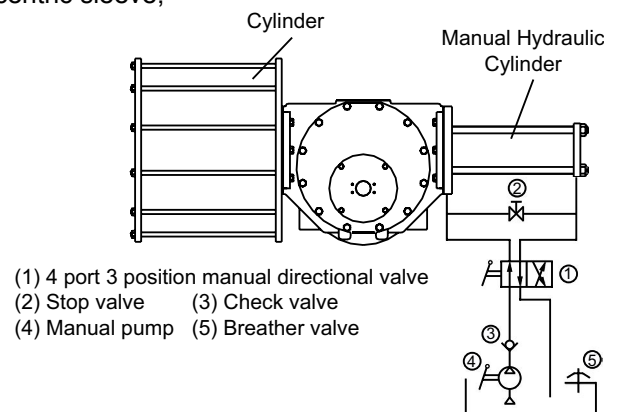

Figure 11
For models G30XXX, G35XXX, G40XXX, G48XXX and G60XXX double acting pneumatic or hydraulic actuators (refer Figures 11 & 11A), a hydraulic cylinder over-ride with a hand pump is available. When manual operating is required, firstly open the equalising valve (2) mounted on the pneumatic actuator, close ball valve (2) by operating the hand pilot valve to control the hydraulic cylinder's oil supply/exhaust, and operate the hand pump to energise opening or closing the valve manually.
(Also refer Figure 11)